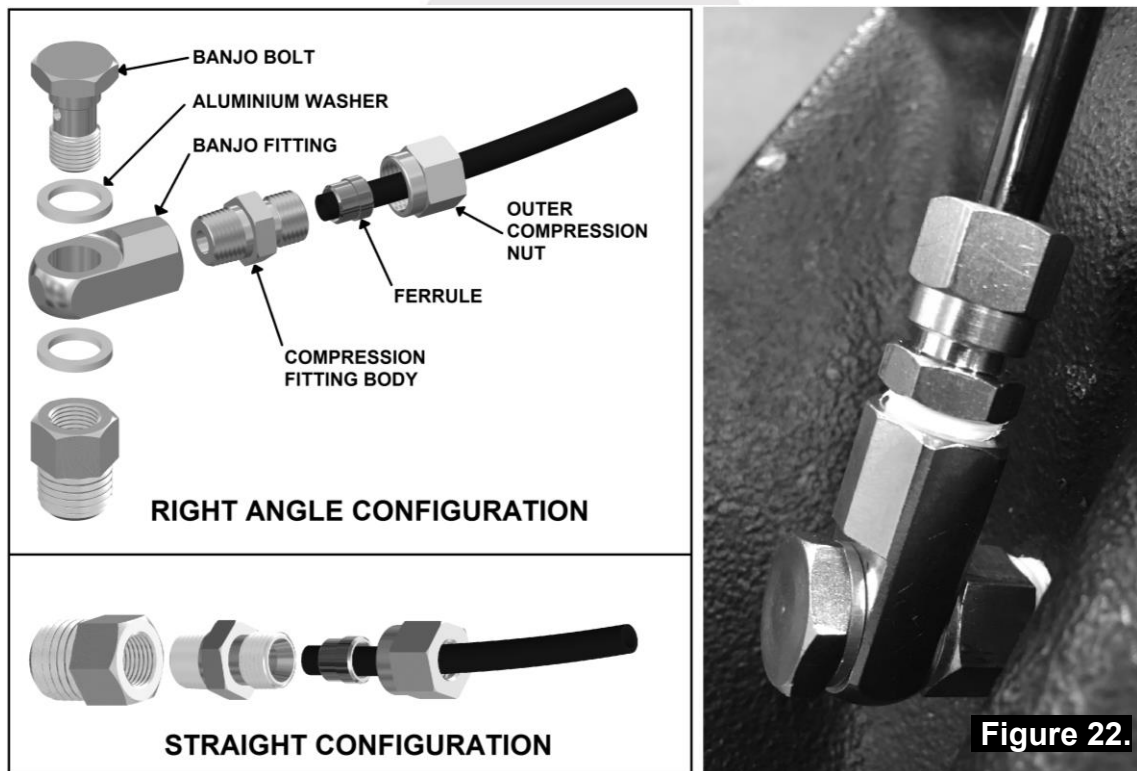

Figure 22.
- Assemble an aluminium washer onto the banjo bolt and insert through the banjo fitting. Assemble second aluminium washer and tighten into bulkhead fitting using a 14mm [9/16"] spanner. (Fig.22.)
- Insert the outer compression nut and ferrule over the air line. Ferrule should be orientated as per Fig.22.
NOTE : When right angle routing of the tube is not required, screw the compression fitting body straight into the bulkhead fitting body (Fig.22.).